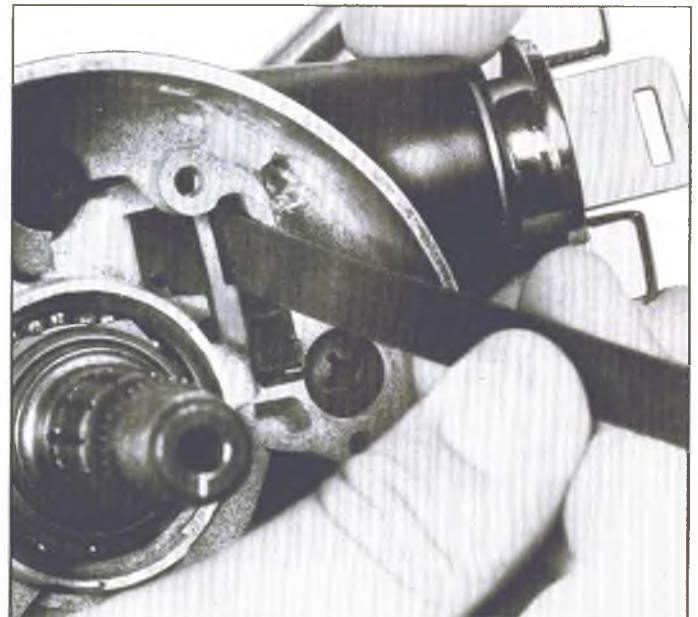

Fig. 54—Lock Cylinder Removal
3. Insert a small screw driver or similar tool into the turn signal housing slot as shown in Figure 54. Keeping the tool to the right side of the slot, break the housing flash loose and at the same time depress the spring latch at the lower end of the lock cylinder. With the latch depressed, the lock cylinder can be removed from the housing.